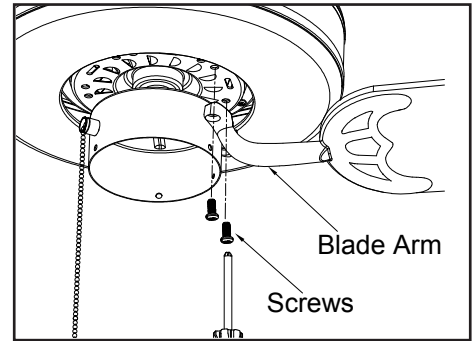

Figure 11
3. Fasten the blade assembly to the motor by inserting the alignment post into the slot of the bottom of the motor and tightening the motor screws. Please note that the motor screws are preattached into the blade brackets. (Figure 11)